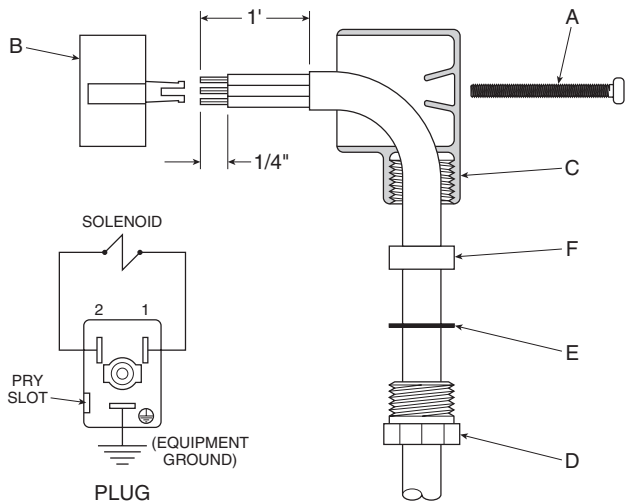

FIGURE 2
2. Remove the gland nut (D), thrust washer (E) and gland (F) from the plug case and slide each part over the multiconductor cable in the order removed. Insert cable through the plug case (see Figure 2).
3. Strip the cable as shown in Figure 2.